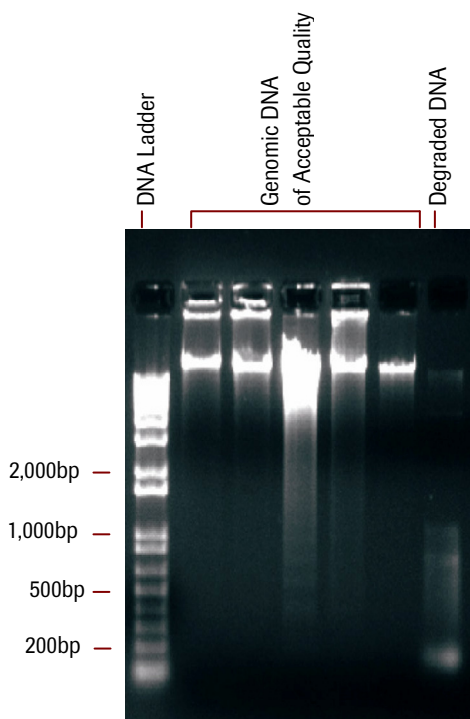

Figure 2: Example of Agarose Gel Electrophoresis Displaying Acceptable and Degraded gDNA Samples
2. Load 200ng of each sample onto a 1% agarose gel and analyze by electrophoresis with appropriate molecular weight markers to ensure that the gDNA is not degraded or displays RNA contamination (Figure 2).